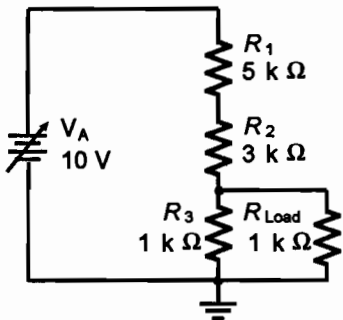

Figure 1.2
- Construct the circuit shown in Figure 1.2 and adjust the power supply to 10 V.
The addition of a 1-k $\Omega$  load across  $R_3$  alters the makeup of the circuit in Figure 1.2. This is due to the fact that the new load has provided another path for current to flow. Another item to consider will be the effect this load will have on total resistance and, therefore, total current.